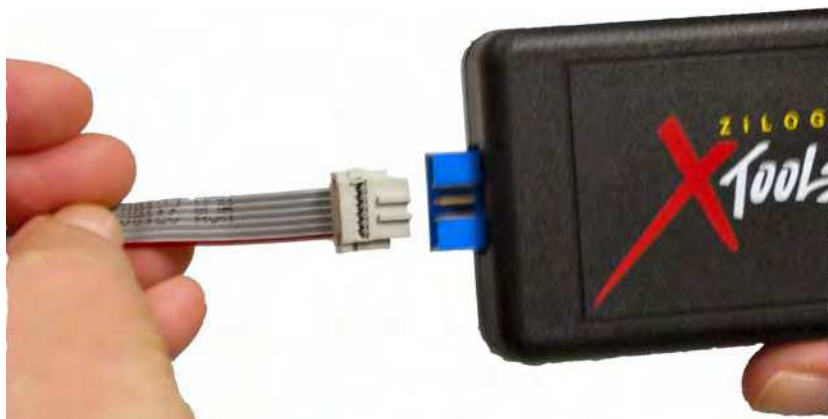

Figure 3. Connecting the Six-Conductor Ribbon Cable to the Serial or USB Smart Cable
2. Connect one end of the 6-conductor ribbon cable provided in your Kit to the USB Smart Cable unit, ensuring that the ribbon's male connector is aligned correctly with the female connector on the unit, as indicated by the red stripe in Figure 3.